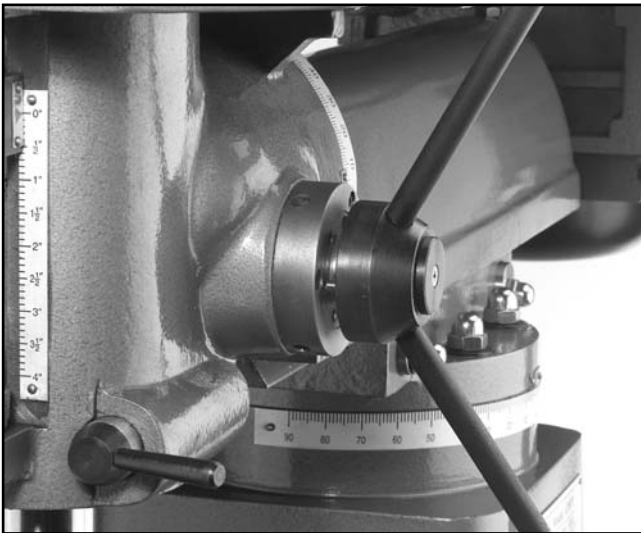

Figure 7. Align pin with holes.
2. Note there is a pin behind the hub. Rotate the handle to a new location and push the hub towards the head casting. The pin must align with holes in the head casting before the hub will seat properly. **See Figure 7.**